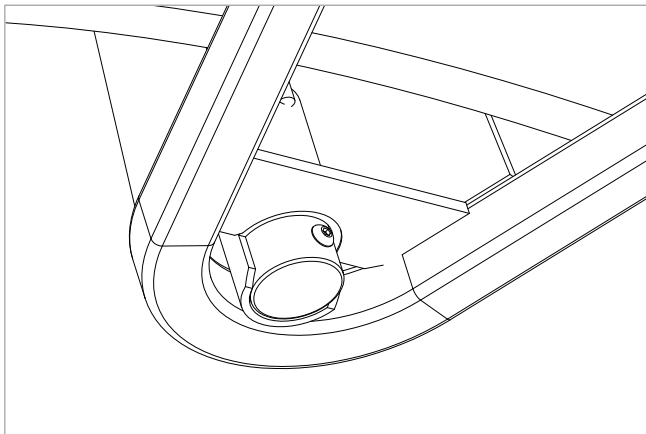

Figure 7.9
9. Once the screw has been fitted, the Lifting Pole should now be fully secured (see Figure 7.9).